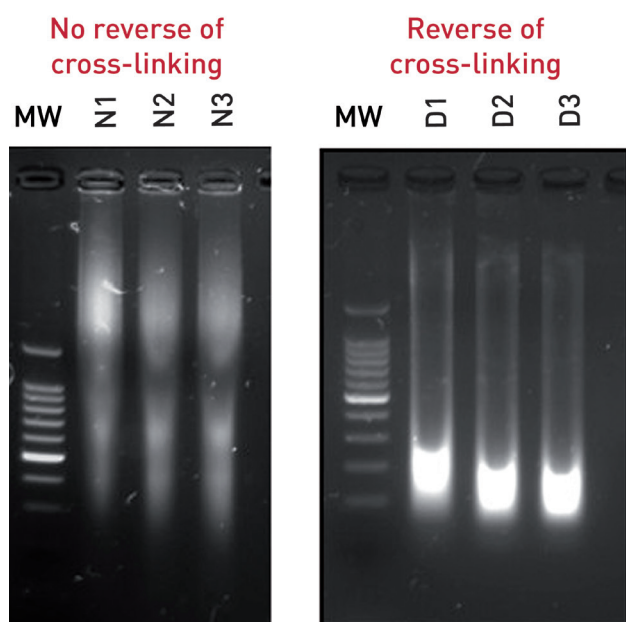

Figure 4: Comparison of shearing assessment with agarose gel using non decross-linked versus decross-linked chromatin
- For optimal fragmentation assessment, a serial dilution of sheared chromatin from 100 ng to 500 ng should be run on a 1.2 - 1.5% agarose gel (ideally the gel should be pre-stained). If only one unique sample has to be tested, we strongly recommend using de-cross-linked chromatin DNA to avoid any misleading size assessment using agarose gel electrophoresis (e.g. from 400,000 - 500,000 cells) (Figure 4).